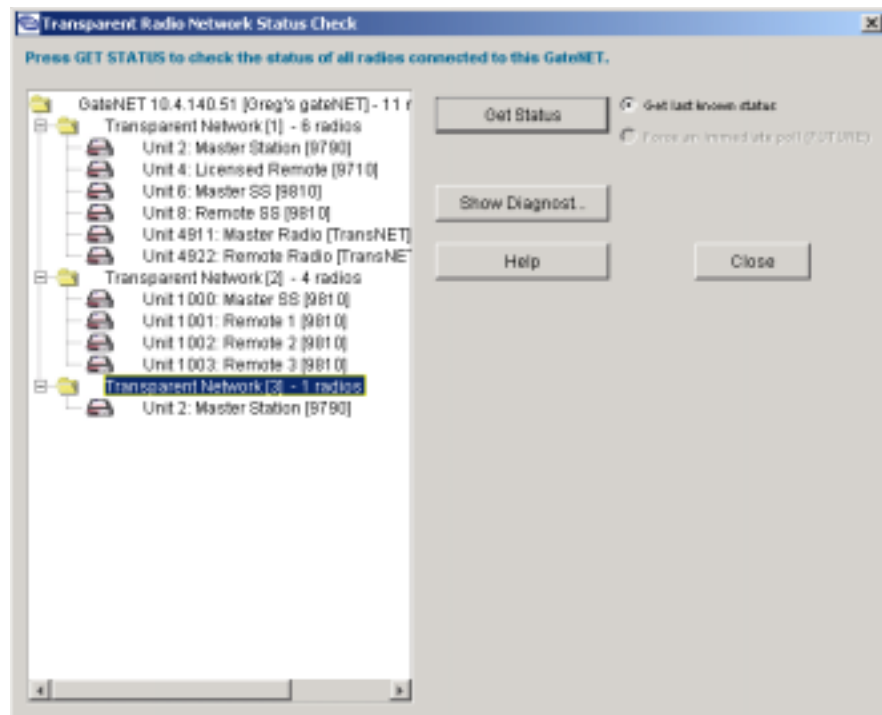

Figure 33. Transparent Radio Health Check Sample Screen
4. A screen similar to Figure 33 appears showing the networks/radios that were detected. Double-click folders to view the radios associated with a particular network.